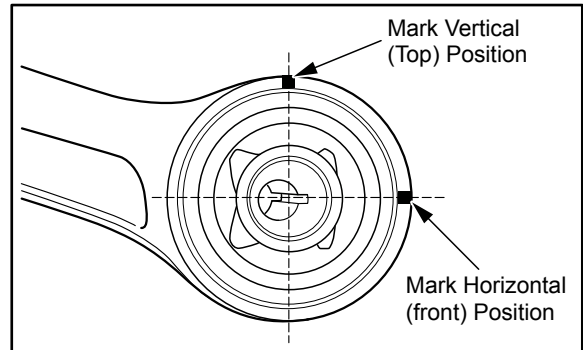
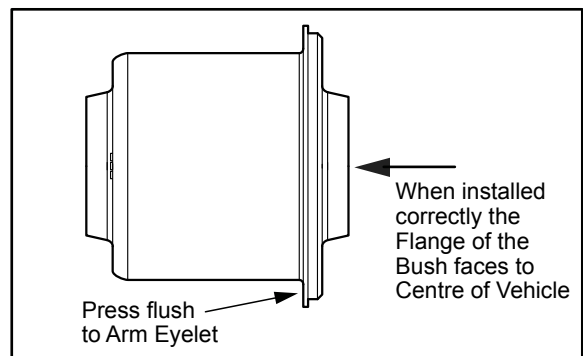

Fig.1
Fig.2
4. With the arm removed and before removing the OE bush use a suitable marking pen and mark the TOP position using the OE centre crush tube slot as the LEVEL position (as per Fig.1). At this stage also mark the horizontal LEVEL position (as per Fig.1).
6. Using the previously marked positions on the arm eyelet (step 2, Fig.1) correctly TIME and press the supplied replacement bush into the eyelet until the shell flange contacts the arm (as per Figs.2 and 3).